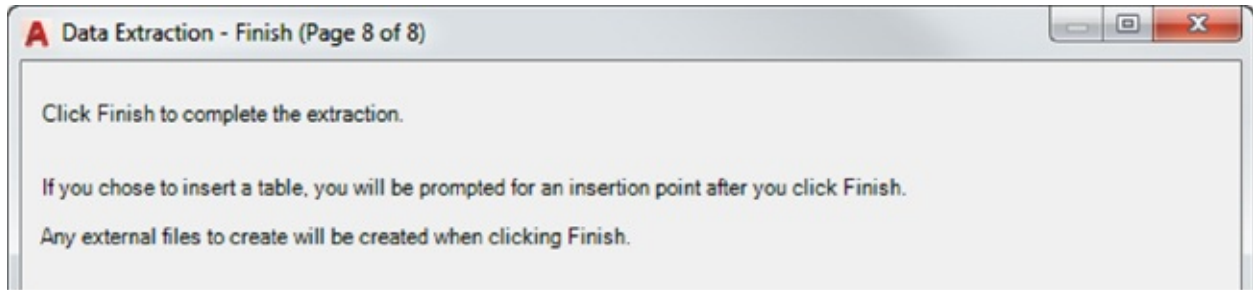

FIGURE 12.22 Completing the wizard
4. Click Next to open the Finish screen (see Figure 12.22). It gives you a brief message explaining what to do next.